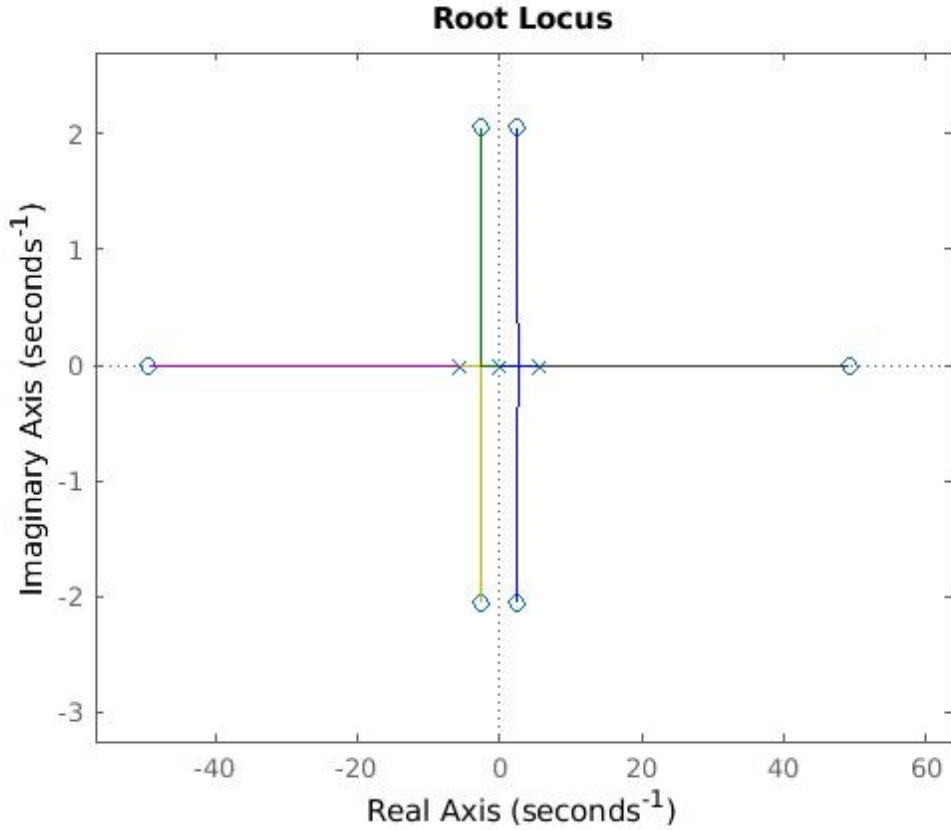

Figure 1: SRL for the system
6.2.2: The SRL plot for the system is given by (in Figure 1)